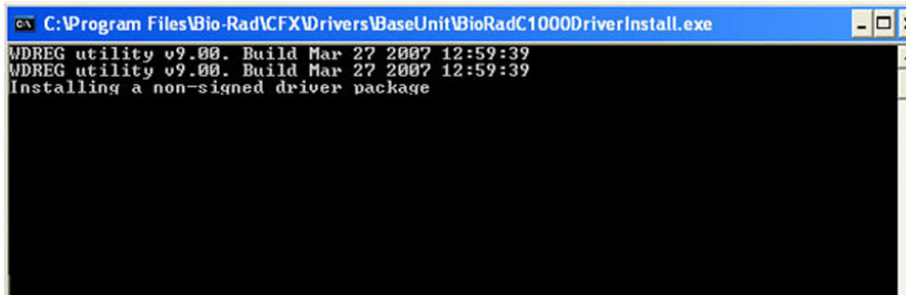

Figure 109. Driver installation window.
2. Click the **Drivers** button software installation screen (Figure 109).